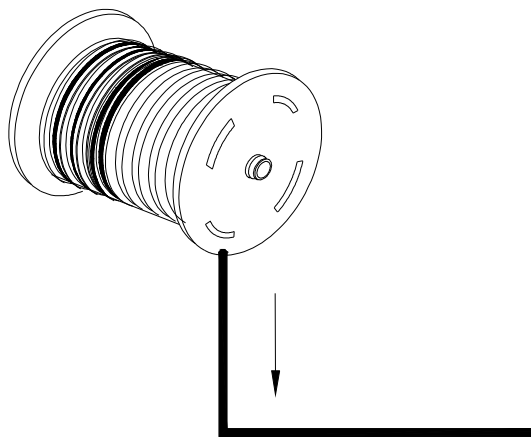

Fig. 10-2-2
- 4) Apply "Hoisting up" operation to enwind the rope on the drum for 4-10 circles .At the same time tension the rope properly.(**Fig. 10-2-2**).